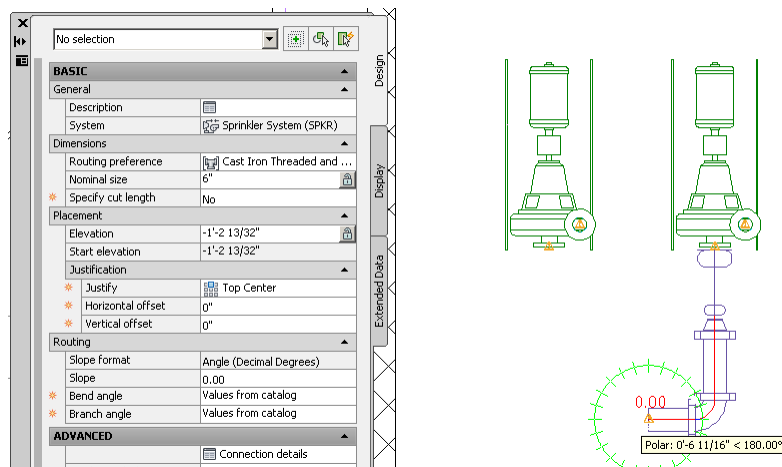

Figure 6.41
20. Next, pick a point towards the left pump so an elbow is added (see Figure 6.41).